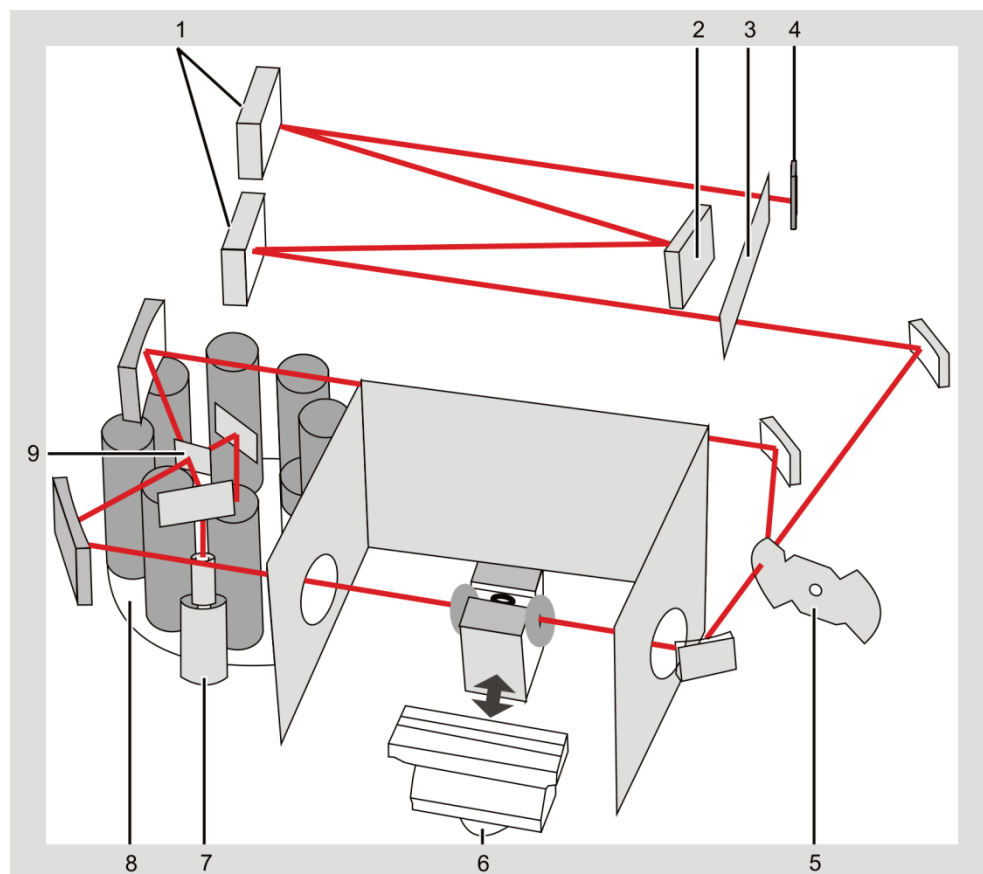

Fig. 5 Optical diagram of the novAA 800
The novAA 800 is a double-beam instrument, which can be used in single or double beam mode, depending on the selected technique. On the left side the 8-lamp turret (item 8 in Fig. 5) is vertically arranged. The lamp turret can be equipped with
1.5" hollow cathode lamps (HCL) as the primary radiation source. In front of the lamp turret there also is a deuterium hollow cathode lamp (D_2 -HCL) (item 7 in Fig. 5) in vertical arrangement for the classical background compensation.
An optical beam splitter (item 9 in Fig. 5) with reflection and transmission fields in chess-board pattern unites the radiation of the active primary HCL with the continuum radiation of the D_2 -HCL and splits it simultaneously into the sample and reference beams. Identical beam paths with the same beam distribution and density in the spatial angle used for both radiation sources ensure the optimal background compensation with the D_2 -HCL.
The reference beam is routed behind the sample chamber. A rotating sector mirror (item 5 in Fig. 5) with 90° reflection sector and transmission sector brings the sample and reference beams together.
The sample beam or combined sample/reference beam is projected onto the entrance slit of a mesh monochromator (items 1 and 2 in Fig. 5). The mesh monochromator is equipped with fixed slits of 0.2 nm / 0.3 nm / 0.5 nm / 0.8 nm / 1.2 nm bandwidth. It
A Silicon-hybrid receiver (item 4 in Fig. 5) at the exit of the monochromator measures the intensity of the impinging radiation synchronously with the clocking of the light sources.